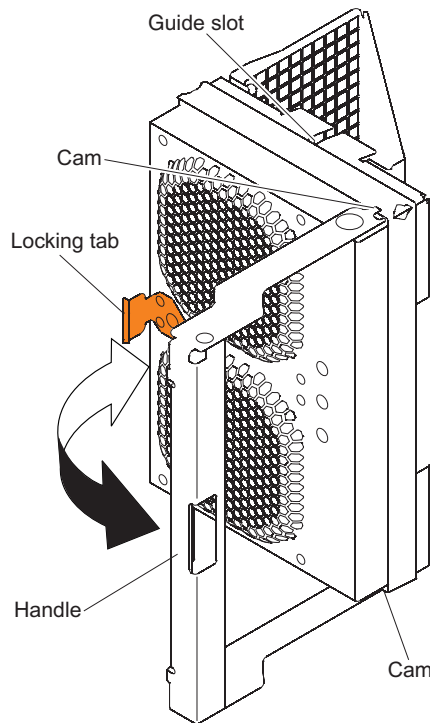

Figure 92. Removing a fan assembly
- a. At the rear of the storage expansion enclosure, remove the fan assembly (see Figure 92) by pressing on the locking tab holding the fan assembly handle in place; then, pull the fan assembly towards you.